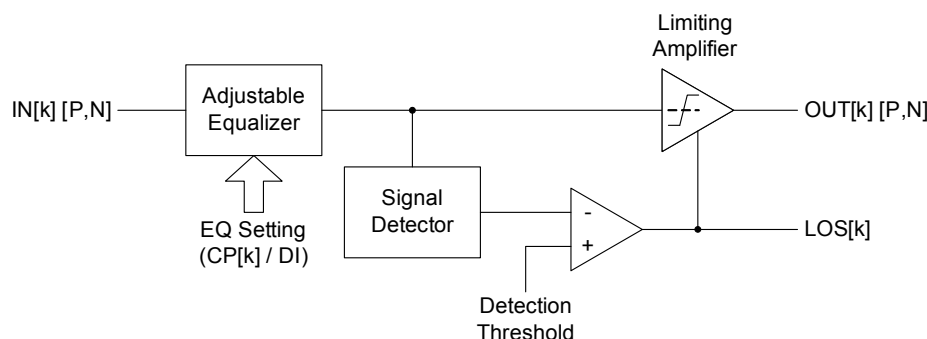

FIGURE 23. FUNCTIONAL DIAGRAM OF A SINGLE CHANNEL WITHIN THE QLx4600-SL30
The QLx4600-SL30 is an advanced quad lane-extender for high-speed interconnects. A functional diagram of one of the four channels in the QLx4600-SL30 is shown in Figure 23. In addition to a robust equalization filter to compensate for channel loss and restore signal fidelity, the QLx4600-SL30 contains unique integrated features to preserve special signaling protocols typically broken by other equalizers. The signal detect function is used to mute the channel output when the equalized signal falls below the level determined by the Detection Threshold (DT) pin voltage. This function is intended to preserve periods of line silence (“quiescent state” in InfiniBand contexts). Furthermore, the output of the signal detect/DT comparator is used as a Loss of Signal (LOS) indicator to indicate the absence of a received signal.
As illustrated in Figure 23, the core of each high-speed signal path in the QLx4600-SL30 is a sophisticated equalizer followed by a limiting amplifier. The equalizer compensates for skin loss, dielectric loss and impedance discontinuities in the transmission channel. Each equalizer is followed by a limiting amplification stage that provides a clean output signal with full amplitude swing and fast rise-fall times for reliable signal decoding in a subsequent receiver.